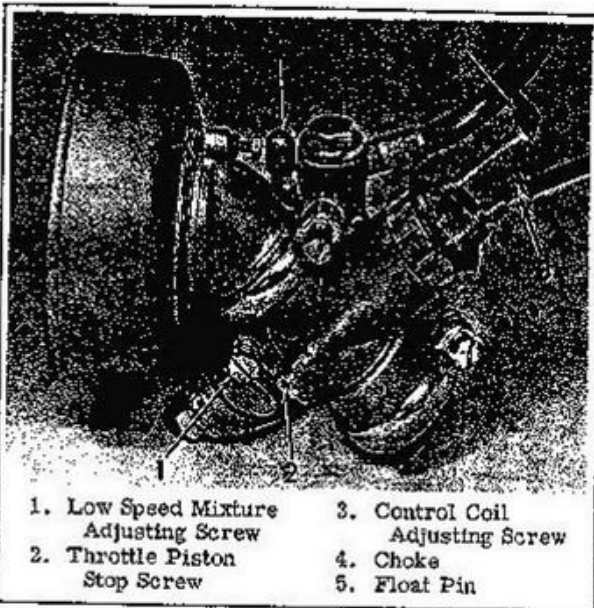

Figure 3F-29. Carburetor Adjustment (1968 & Earlier)
**C - High Speed Mixture Adjustment** (See Figure 3F-29A)